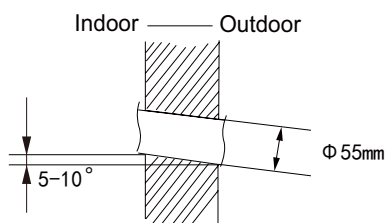

Fig.2
(2) Open a piping hole with the diameter of $\Phi 55\text{mm}$ on the selected outlet pipe position. In order to drain smoothly, slant the piping hole on the wall slightly downward to the outdoor side with the gradient of $5-10^\circ$. (As show in Fig.2)